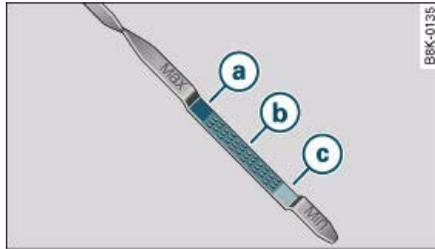
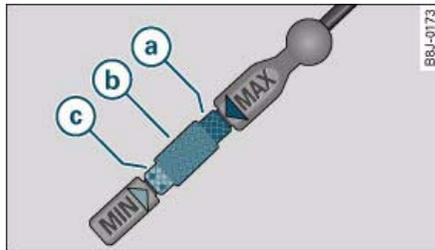

Fig. 253 Variant 1:
Fig. 254 Variant 2:
- Then pull the dipstick out again and check the oil level ⇒ fig. 253 or ⇒ fig. 254. If the oil level is too low, add more engine oil ⇒ *page 259*.
- The oil level must never be above area **a** ⇒ *page 258, fig. 254*, as this may result in damage to the catalytic converter or to the engine. On vehicles without an oil dipstick, you can check the oil level via the sound system or MMI*. Contact a qualified workshop to extract the engine oil if necessary.